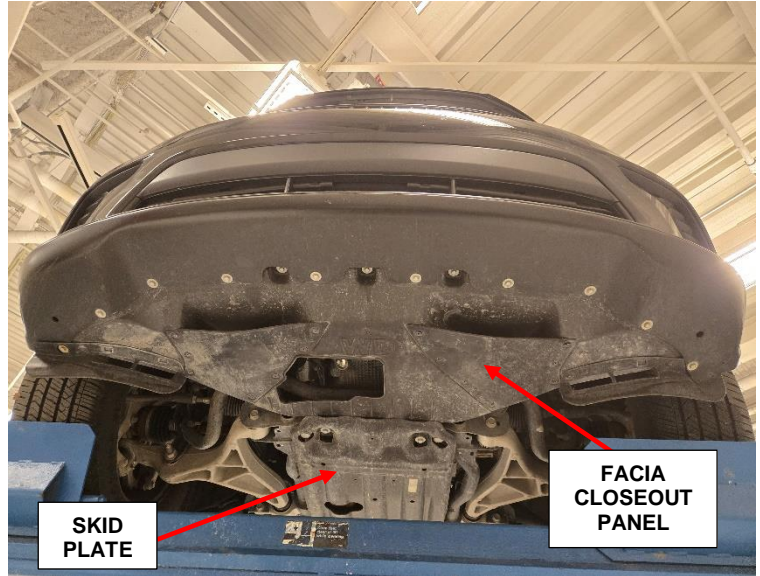

Figure 1 – Under Body
3. Remove the skid plate (Figure 1).
4. Remove the lower fascia closeout panel (Figure 1).